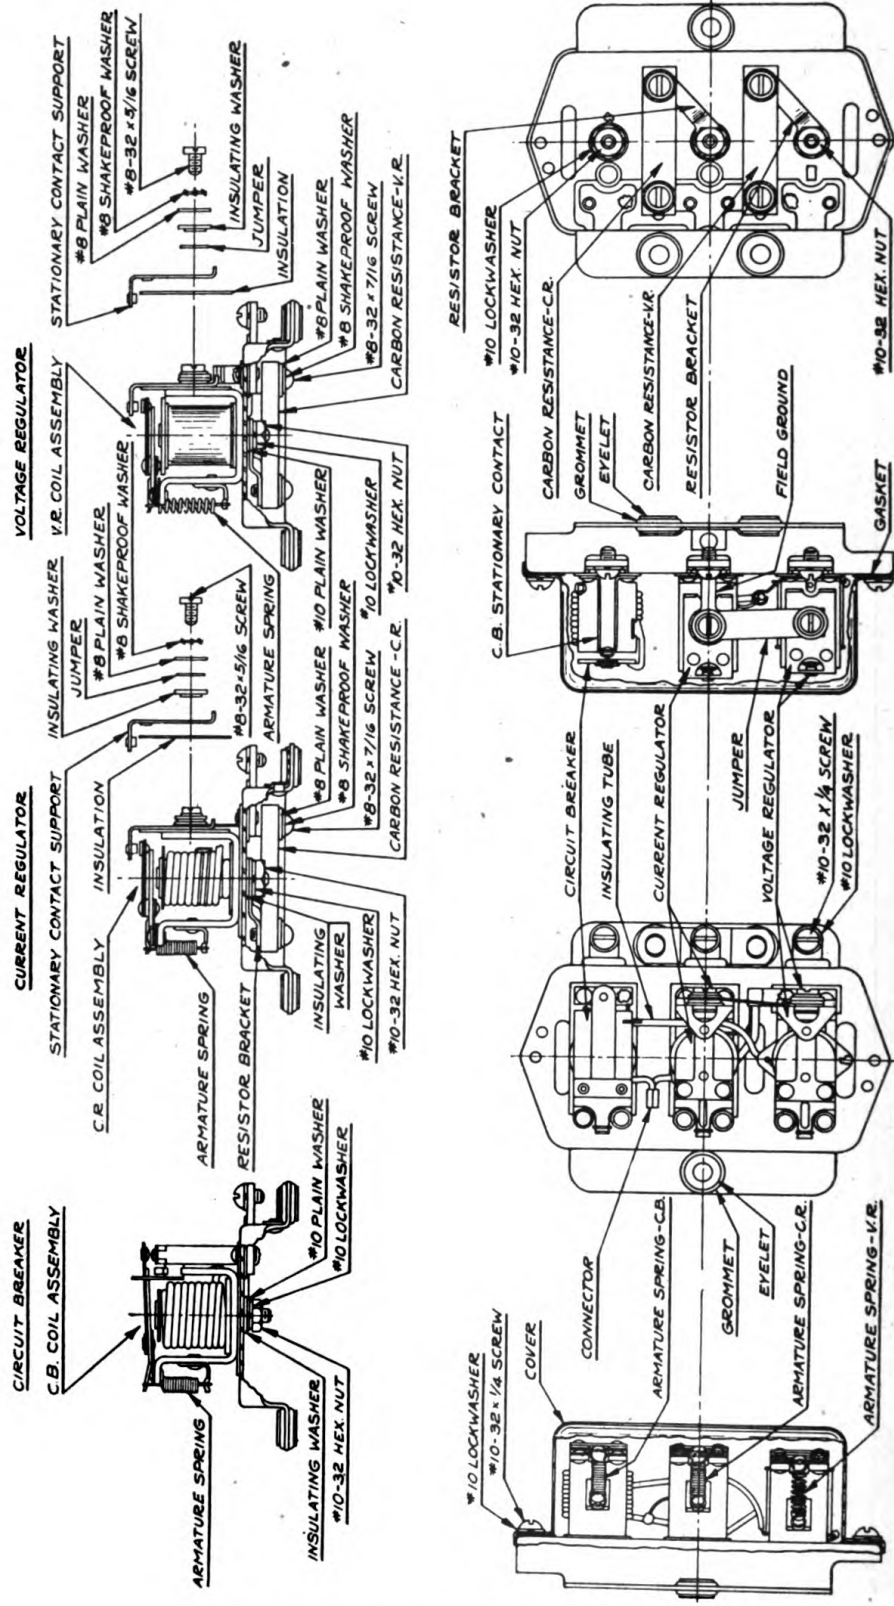

Figure 22.—Low voltage regulator
h. Low voltage regulator (figure 22).—